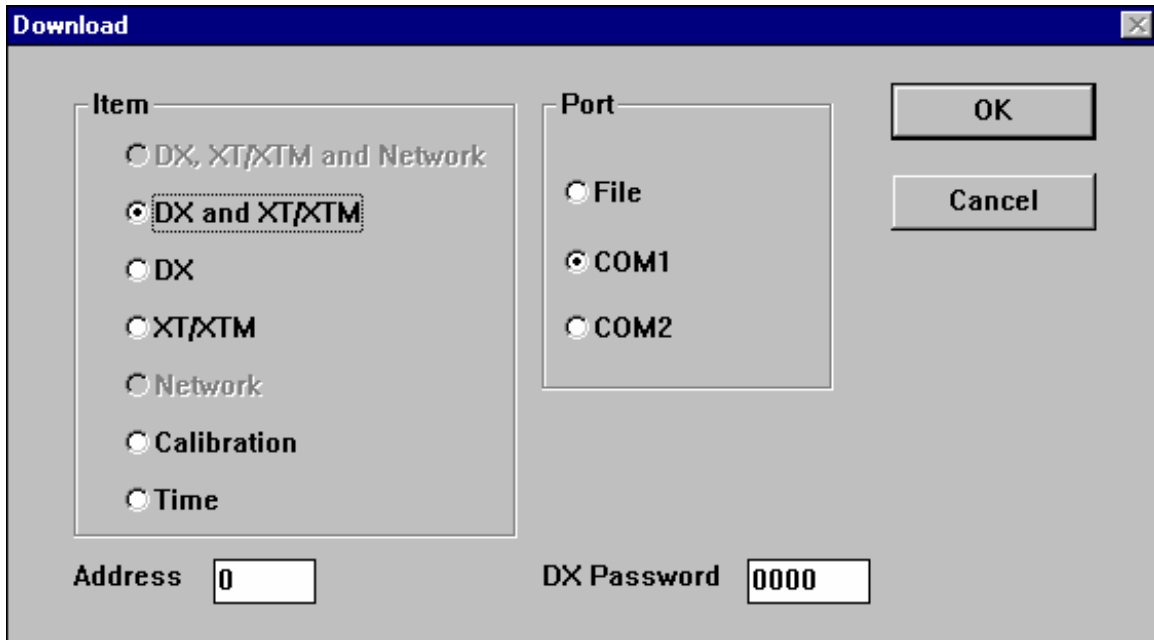

Figure 9-1: Download Dialog Box
1. On the Action menu, click Download. The Download dialog box appears (Figure 9-1).